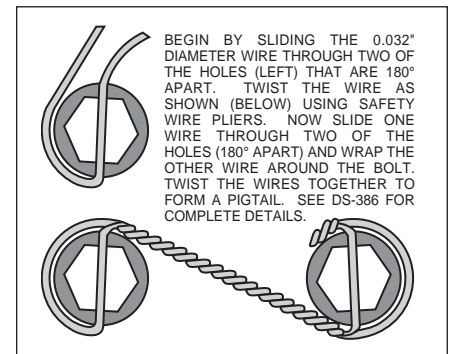

Figure 4. Safety Wire Diagram
- With the larger I.D. side of the rotor (6) facing away from the hat (7), bolt the rotor (6) to the hat (7) through the backside of the rotor using washers (8) and bolts (9) provided in the configuration pictured in figure 1. Be sure all bolts thread in smoothly and are snug. Then, torque all bolts in an alternating sequence to 180 **in-lbs**. Safety wire bolts (9) using standard 0.032 inch diameter stainless steel safety wire as shown in Figure 4. Please refer to Wilwood's data sheet DS-386 (available at [www.wilwood.com/pdf/ds386.pdf](http://www.wilwood.com/pdf/ds386.pdf)) for complete safety wire installation instructions.
- Lubricate caliper mounting studs (13) and nuts (11) with lightweight oil. Install two shims (14) over each stud (13) on the radial mount bracket. Slide the caliper (10) in place over the studs and rotors and install the washer (12) and lock nut (11) to hold the caliper in place. The caliper bleed screws should be pointing up. Snug the lock nuts (11) and check that the rotor (6) is centered in the caliper (10). Add or subtract shims (4 and/or 5) as necessary between the mount bracket and the spindle to center the caliper.
- Remove the caliper center bridge pad retainer bolt, nut, and tube from the caliper. Slide the brake pads (15) into place. They should install easily without interference. Check that the outside radius of the brake pad is flush with the outside diameter of the rotor face. Add or subtract shims (14) between the caliper and mount bracket to gain the proper alignment. Reinstall the center bridge pad retainer tube, bolt, and lock nut. The locknut should be snug without play in the bolt or tube. Be cautious not to over tighten.
- Once all clearances have been checked, remove the wheel, caliper, hat, and rotor from the spindle and hub. Secure the caliper mounting bracket (1) to the spindle using red *Loctite*® 271. Torque the bolts to 65 ft-lbs. Reinstall the hat and rotor assembly and again use several lug nuts to hold it in place. Reinstall the caliper, torque the caliper nuts (11) to 30-35 ft-lbs.